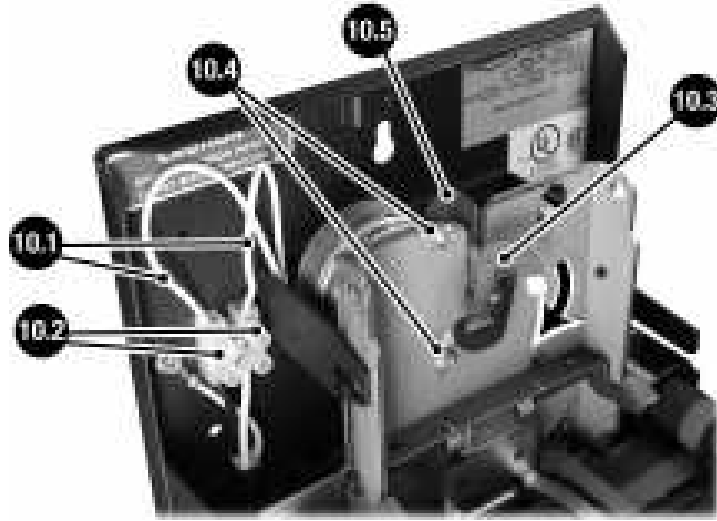

**Figure 9**
3. Slide the bottom battery compartment outward (to front) and down, to get to the batteries. (See Figure 9.)